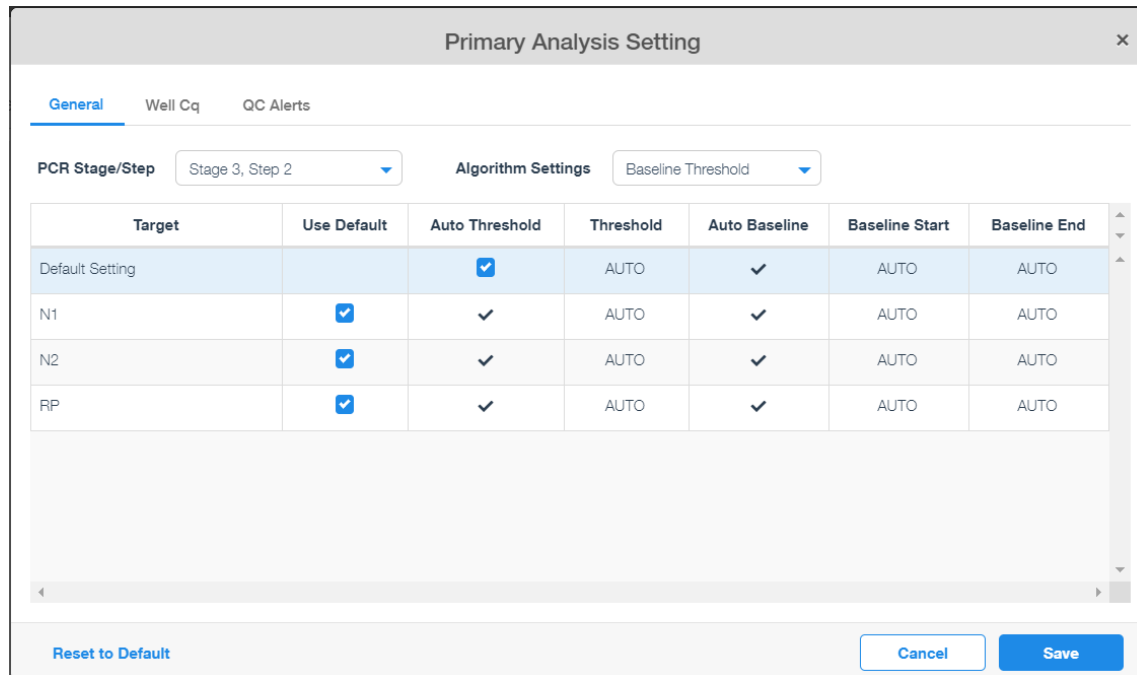

Figure 27 Default settings in the Design & Analysis Primary Analysis Setting dialog box
The Primary Analysis Settings dialog box opens. The default settings in this dialog box are shown in **Figure 27**.
- 4 Make sure that the setting match those shown in **Figure 27**. If necessary, click **Reset to Default**.